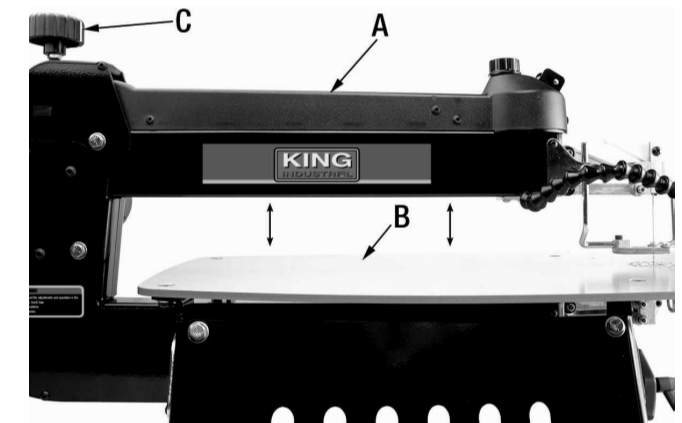

FIGURE 14
- 3) Before installing a new or different blade, make sure the upper arm (A) Fig.14 is roughly parallel with the table (B) by turning the upper arm/ blade tension adjustment knob (C) to raise the arm up or down as needed.
- 3) If the blade is not properly tensioned, it can be fine tuned by rotating the upper arm/ blade tension adjustment knob (C) Fig.14 to raise the arm up or down as needed.